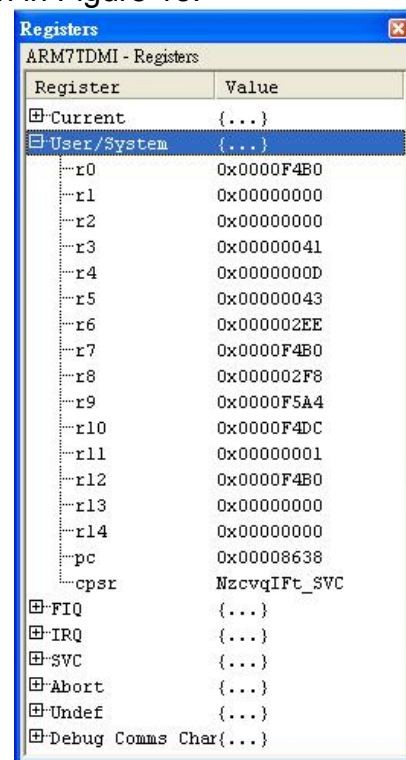

Figure 18. Examining contents of registers.
- 3.1 The registers are arranged in groups, with only the group names visible at first. Click on the **+** symbol of any group name to see the registers of that group displayed. An example is shown in Figure 18.